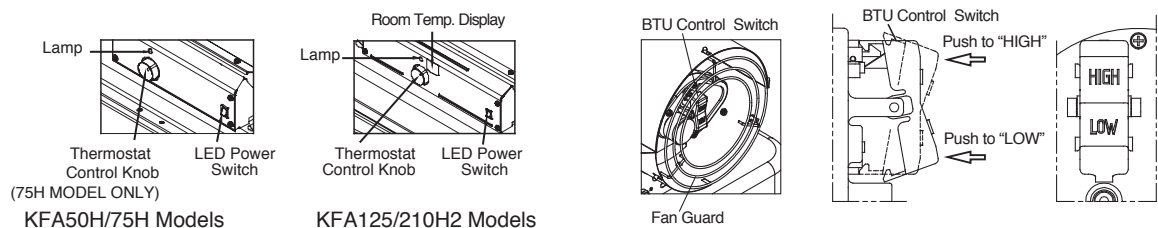

Figure 8. Controls for All Models
Insert screws through handles, fuel tank flange and wheel support frames as shown in Figure 8 and attach nut finger tight after each screw is inserted.
5. Push “BTU control Switch” to desired level “High or LOW” (See Figure 8.) (KFA210H2 Models Only)